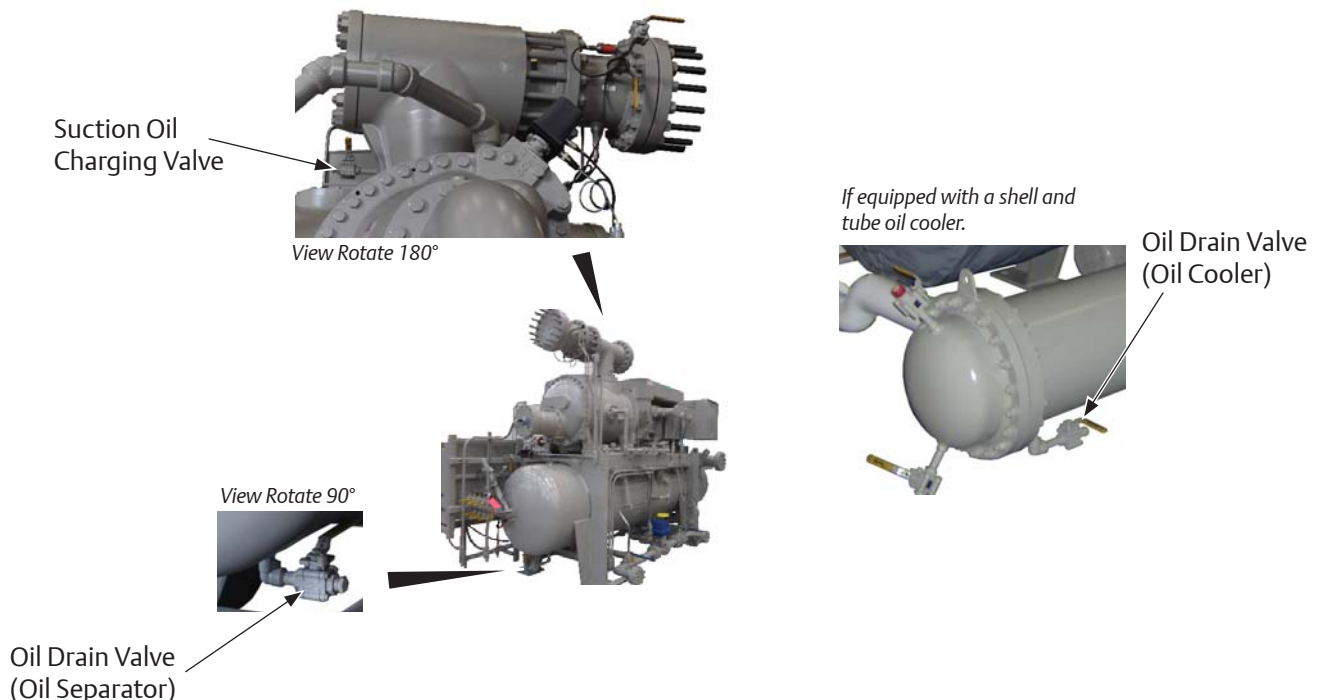

Figure 5-3. Suction Oil Charging Valve, Oil Cooler Drain Valve and Oil Separator Drain Valve
valve, see Figure 5-3. Pump oil into the compressor until the oil level reaches the normal operating level. Watch this level carefully to maintain proper operation. Never allow the oil to reach a level higher than the Maximum Operating Level, since this may impair the operation and efficiency.
1. Using a properly selected oil pump, connect oil pump to suction oil charging valve, see Figure 5-3.
During shutdown, if oil is to be added, charging can be performed through the drain valve located underneath the oil separator, see Figure 5-3. During shutdown, oil can be added to the Maximum Non-Operating Level. For shutdown procedure, see Compressor Unit Isolation procedure.
Draining can be performed through the drain valve located underneath the oil separator, see Figure 5-3. If the compressor unit is equipped with a shell and tube oil cooler, a drain valve is also provided underneath the shell and tube oil cooler.